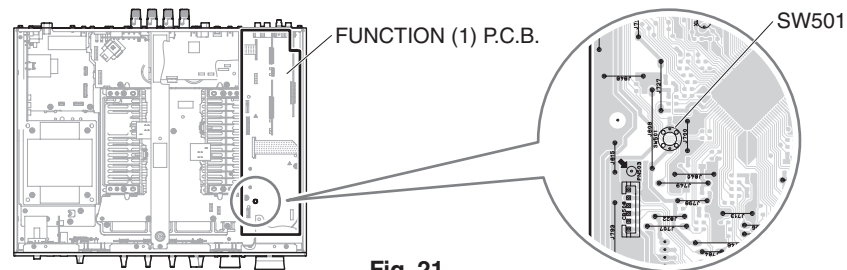

Fig. 21
2. While pressing the SW501 of FUNCTION (1) P.C.B., press the "⏻" (power) switch. (Fig. 21)